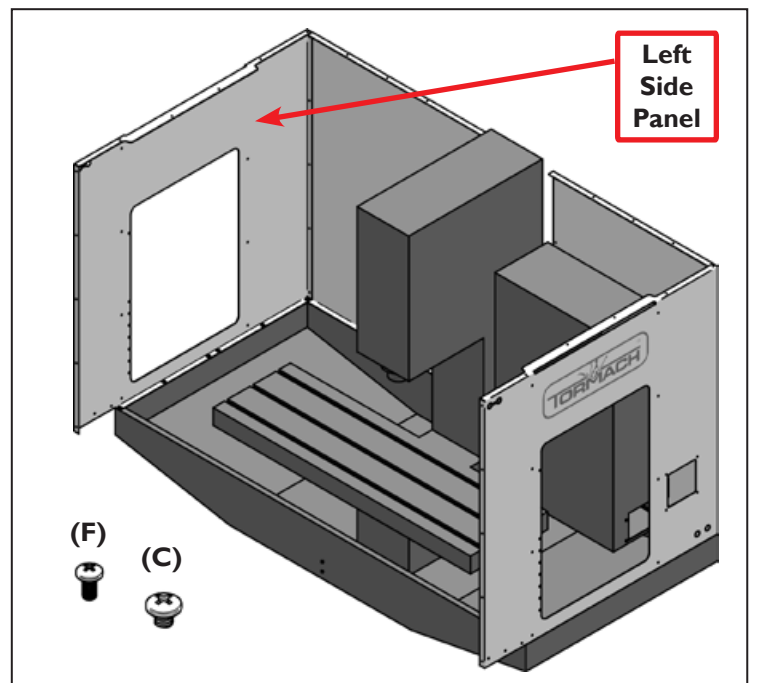

Figure 6
14. Place the Left Side Panel (E.17) on top of the left side of the machine stand (see **Figure 6**).